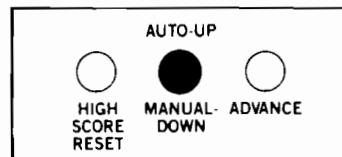

Figure 5. Diagnostic Button Switches
**ENTERING BOOKKEEPING MODE.** See Figure 5. Inside the coin door (or under the hood on cockpit-model games) is a bracket with three button switches. Set the AUTO-UP/MANUAL-DOWN (center) switch to AUTO-UP. Press the ADVANCE switch to display BOOKKEEPING TOTALS on the screen (Figure 3). Now check those totals. Here's what to look for...
**ENTERING BOOKKEEPING MODE.** See Figure 5. Inside the coin door (or under the tabletop on cocktail-model games) is a bracket with three button switches. Set the AUTO-UP/MANUAL-DOWN (center) switch to AUTO-UP. Press the ADVANCE switch to display BOOKKEEPING TOTALS on the screen (Figure 6). Now check those totals. Here's what to look for...